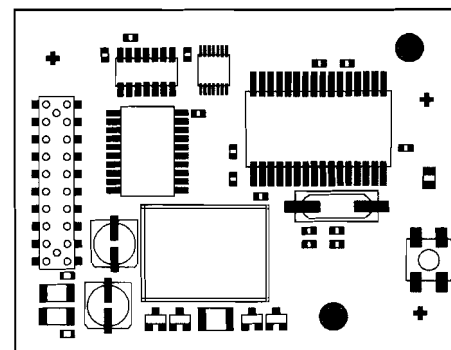

Fig. 7. The XD40L LonWorks Module
- the XD40L LonWorks Module (see Fig. 7).